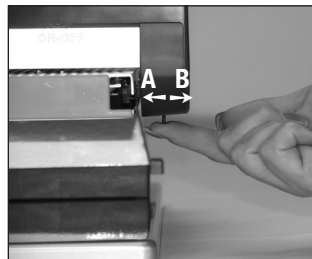

Figure 3.
The Chef'sChoice® professional electric food slicer is provided with a child safety switch (11) shown in Figure 3, to reduce the risk of accidentally turning on the slicer.
2. Place assembled slicer on a clean, dry smooth surface. Position slicer so food carriage (5) is to your right and thickness control knob (7) to your left. Be sure blade is properly secured. (Retention screw tightens **counter clockwise**). Food carriage should glide smoothly in its track. Pull it toward you and away from the blade.
3. Move safety switch (Figure 3) to Position B.
3. To slice, maintain thumb pressure on the automatic switch and slide the carriage forward to cut and backward to prepare for the next cut, moving back and forth steadily. Using the food pusher, keep the food pressed against the thickness control plate (2) for even slices.
5. When finished slicing, turn the motor off by releasing thumb pressure on the automatic switch, unplug the slicer and lock the safety switch in Position A (Figure 3).